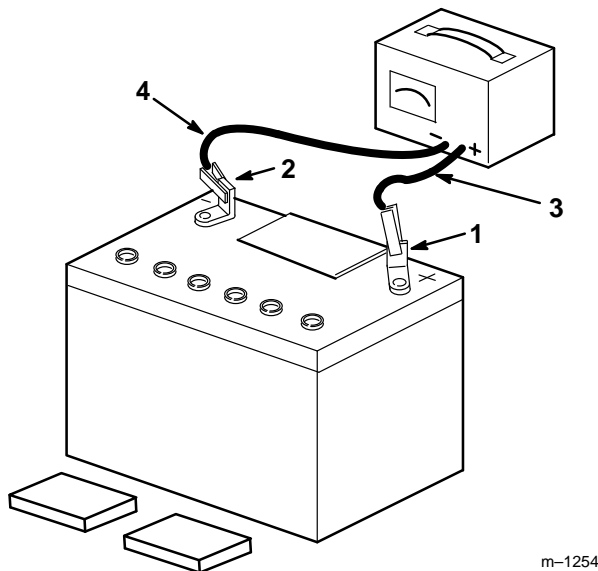

Figure 3
3. Leave the covers off and connect a 3 to 4 amp battery charger to the battery posts (Fig. 3). Charge the battery at a rate of 4 amperes or less for 4 hours (12 volts).
- When the battery is fully charged, disconnect the charger from the electrical outlet then from the negative and positive battery posts (Fig. 3).